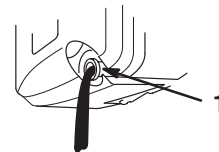

Figure 19
5. Tip the lawn mower onto its **left** side, allowing the oil to drain into the drain pan (Fig. 19).